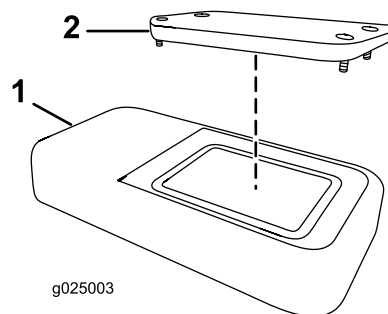

Figura 61
2. Remova a tampa (Figura 61).